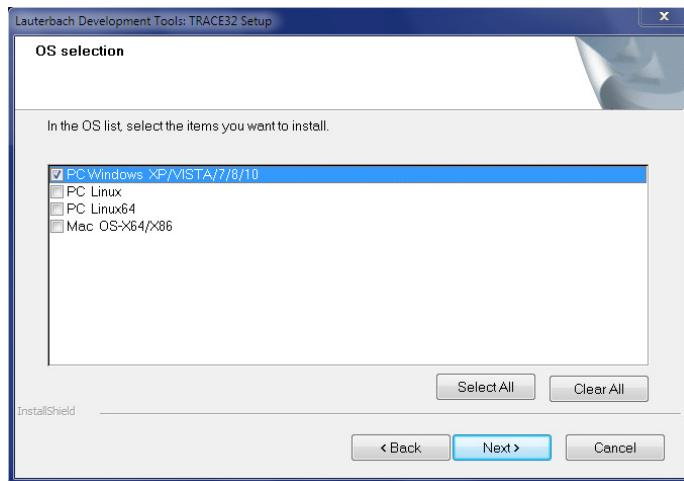

Figure 5.28: **OS Selection** page
8. On the **OS Selection** page, select **PC Windows XP/VISTA/7/8/10** (see Figure 5.28 on this page).